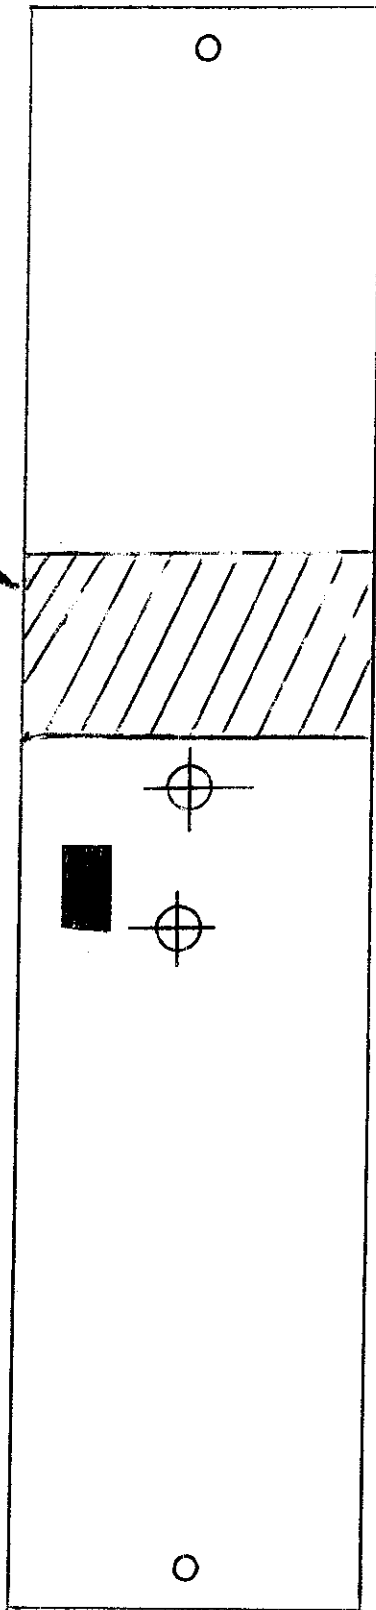

Fig 2
12. When adjustment is complete tighten screws and punch holes in existing cover for LED and Reset switch. See Fig 2.
COVER MUST BE ON COUNTER WITH VIBRATION DAMPING FOAM (SUPPLIED) ON THE INSIDE OF THE COVER AT THE LOCATION SHOWN IN FIG 2. BOTH SCREWS MUST BE SECURED ON COVER. VIBRATION DAMAGE IS POSSIBLE IF THIS IS NOT DONE